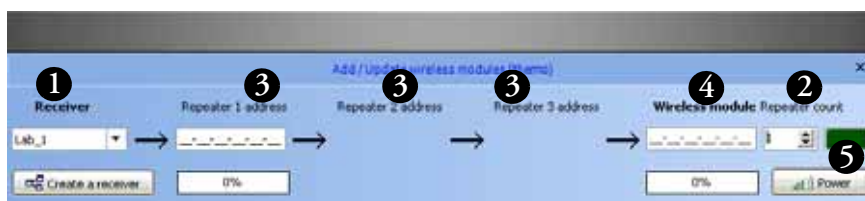

Figure 26. Adding an end-point module manually
- If the end-point module you wish to add is not shown in the list on the left, choose a receiver from the drop-down menu (#1 in Figure 26) in the wireless test section shown below: